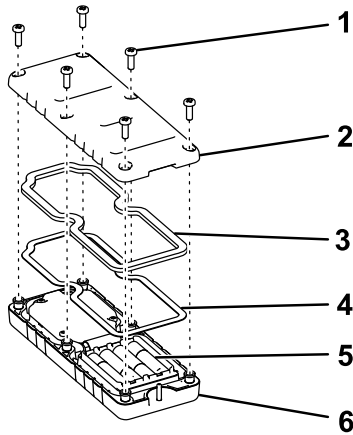

Figure 40
1. Remove the 6 screws from the back of the remote and remove the cover (Figure 40).
5. Replace the cover and secure it with the 6 screws removed previously (Figure 40) and torque them to 1.5 to 1.7 N·m (13 to 15 in-lb).